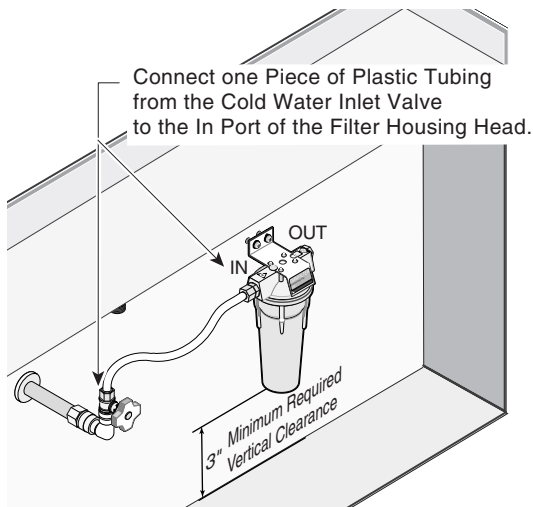

Figure 5
7. Connect this plastic tubing assembly to the cold water inlet valve. See Figure 5. Assemble the other end of this piece of plastic tubing in the same way and connect it to the "In" port of the filter housing head.